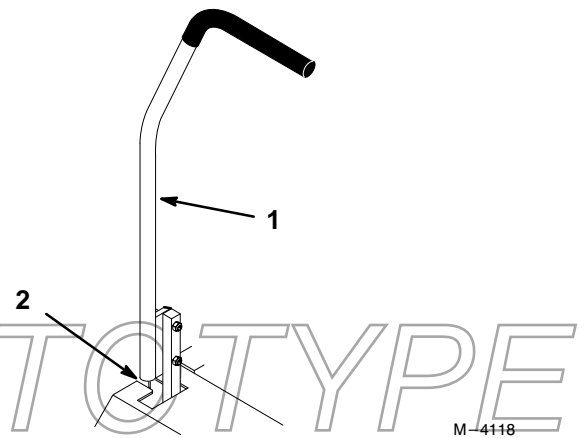

Figure 48
3. Check where lever is relative to notch in console (should be centered allowing lever to pivot outward to the neutral lock position (Fig. 48).